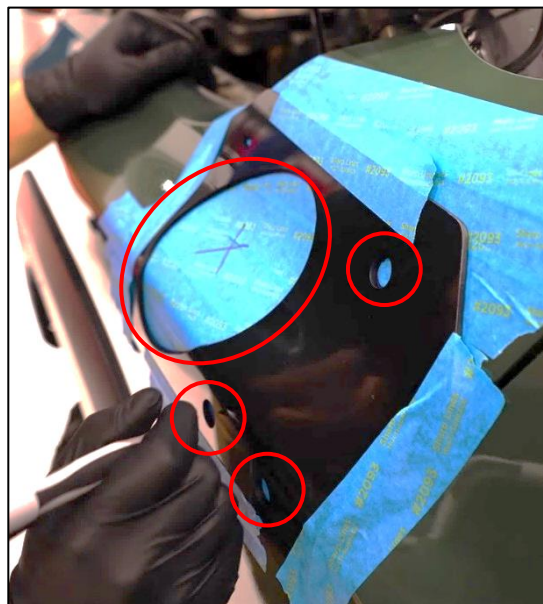

Figure 6
9. Using a marker, trace the inside of the Locating Template holes. The locations are marked below. *Figure 6.*